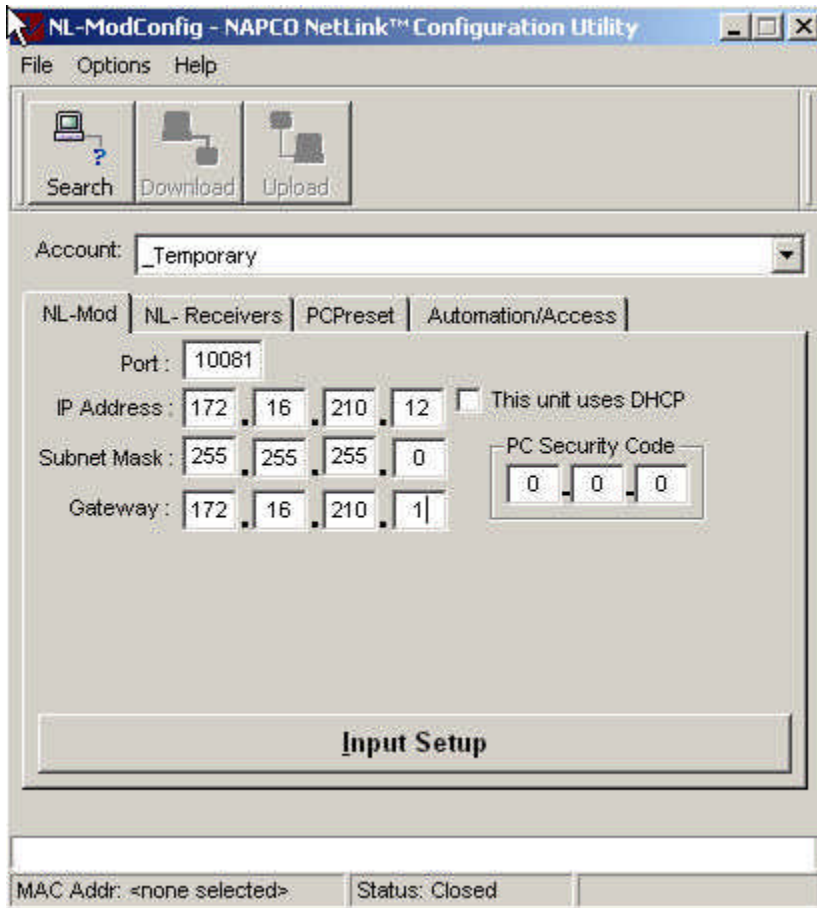

Figure A5.
6) Configure the **Network settings** for the **NLMOD**. Refer to figure A5.
- Click on the **NL-Mod** tab. Refer to figure A5.